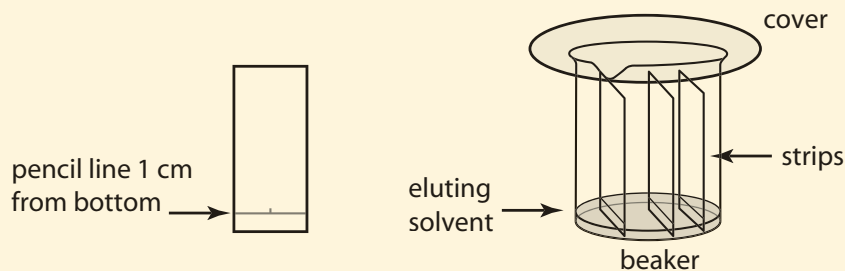

Figure 9.2 Preparation for paper chromatography
4. Find a way to hang the chromatography strips in the developing tank so that they do not touch each other and are 1 or 2 mm off the bottom (see Figure 9.2).